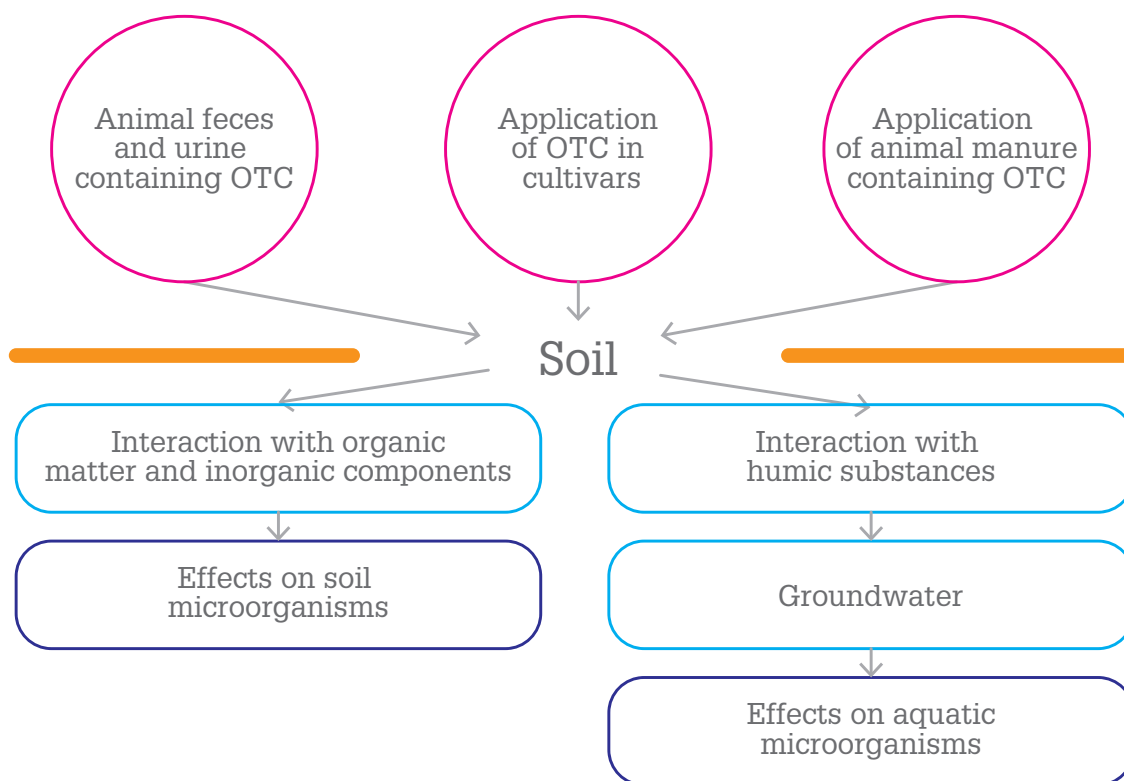

Figure 1. Pathways for exposure to the oxytetracycline (OTC) antibiotic.
Figure 1 presents exposure pathways in the environment for the antibiotic oxytetracycline (OTC), which is commonly used in agriculture and poultry. OTC enters the soil via animal feces and urine, and from application in plants and animal manure (10). The antibiotic can interact with organic and inorganic components and have an effect on soil microorganisms; on the other hand, humic substances (for example, humic acids) can transport the antibiotic to the groundwater and impact on aquatic microorganisms (11).